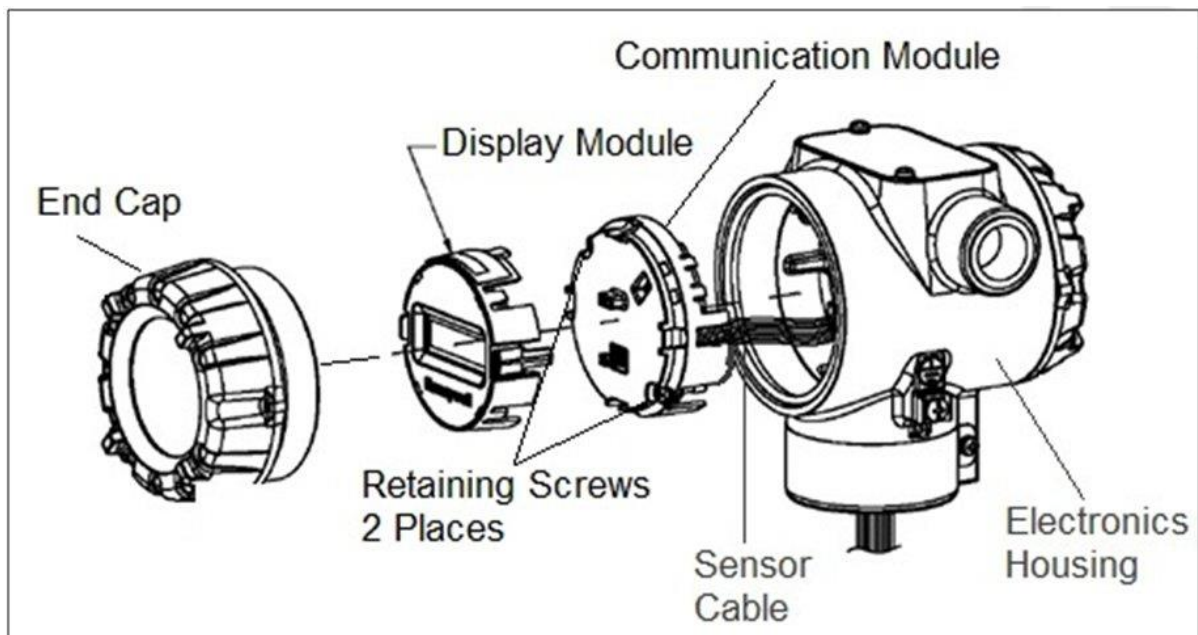

Figure 26 – PWA Replacement
Refer to Figure 26 for parts locations.
16. Install external upgrade label (i.e. DEVICE MODIFIED.....) provided on outside of housing as shown in Figure 26.